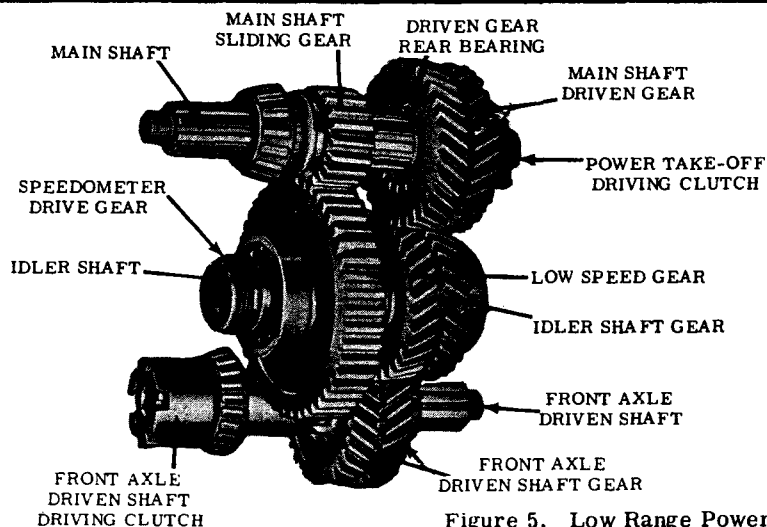

Figure 5. Low Range Power Flow.
- (2) Low range power flow (fig. 5). Shifting into low range moves the shifter fork toward the trans., causing the main shaft sliding gear to engage the idler shaft low speed gear. Through the idler gear, power is transmitted through the idler shaft gear to the front axle driven shaft gear which actuates the front axle drive shaft.